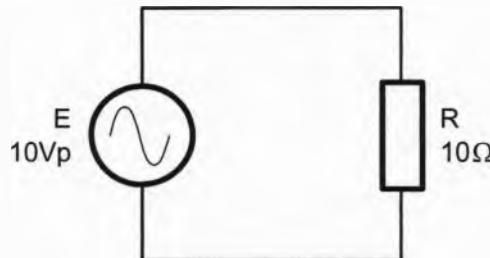
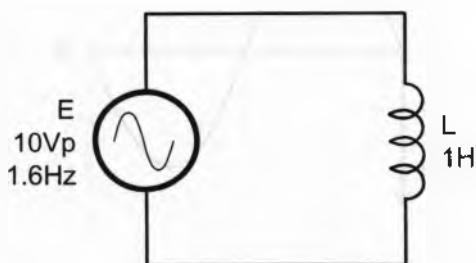

Figure 1 A simple single-resistor circuit
Figure 3 A simple single-inductor circuit
Figure 1 below shows a simple single-resistor circuit connected to a 10V peak supply.
Figure 3 below shows a simple single-inductor circuit connected to a 10V peak supply.
An inductance of 1H and an EMF frequency of 1.6Hz has been chosen for the circuit so that the inductor's reactance is 10Ω . This gives us a convenient comparison with the resistive circuit in Figure 1 because the peak circuit current for this circuit must be 1A as well.
As reactive power is energy that is not dissipated, the watt cannot be used for its unit of measurement. Instead, the *volt-ampere reactive* is used and is abbreviated to *var*. So, the reactive power (Q) of the inductor in Figure 3 is: $Q = I \times V_L = 7.07V \times 0.707A = 5 \text{ vars}$.
A capacitance of $1,600\mu\text{F}$ and an EMF frequency of 10Hz has been chosen for the circuit so that the capacitor's reactance is 10Ω . This gives us a convenient comparison with the resistive circuit in Figure 1 and the inductive circuit in Figure 3 because the peak circuit current of 1A is the same in all cases.